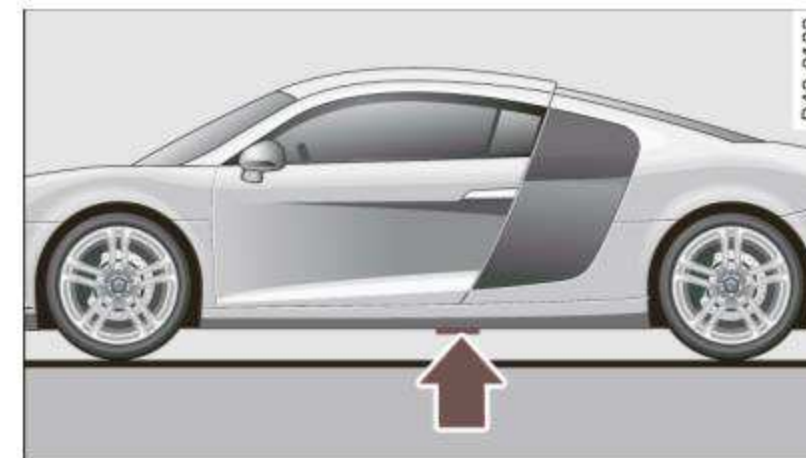

Fig. 133 Wheel change: mounting points for the lifting jack
- Find the **mounting point** on the rocker panel which is closest to the flat tire ⇒ fig. 133.
Recesses at the front and rear of the underbody rib mark the proper mounting locations for the jack ⇒ page 241, fig. 133. There is *only one* designated jack mounting point for each wheel. *Do not* apply the jack anywhere else ⇒ ⚠.
A floor jack or the pads on the hoist arms must **not** be positioned at the points shown ⇒ page 241, fig. 133 -arrows-. ■